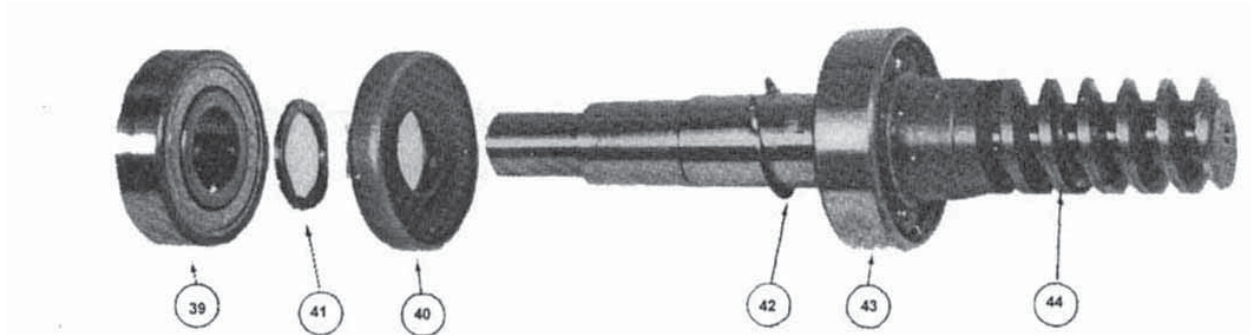

Figure 5 - Input Shaft Assembly
**Part Number according to Plunger Diameter(see Fig. 5, 6 & 7)**